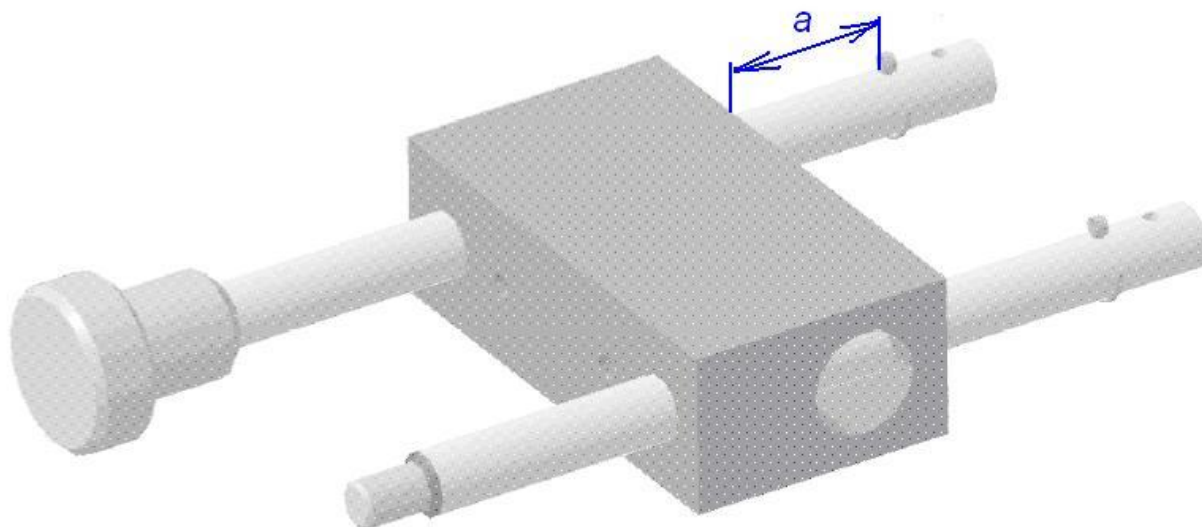

Fig. 6
- c. Proceed to item 4.
- a. Mark on the handle length it can be pulled out more (distance from the bracket to the cotter-pin in the handle). Fig. 6.